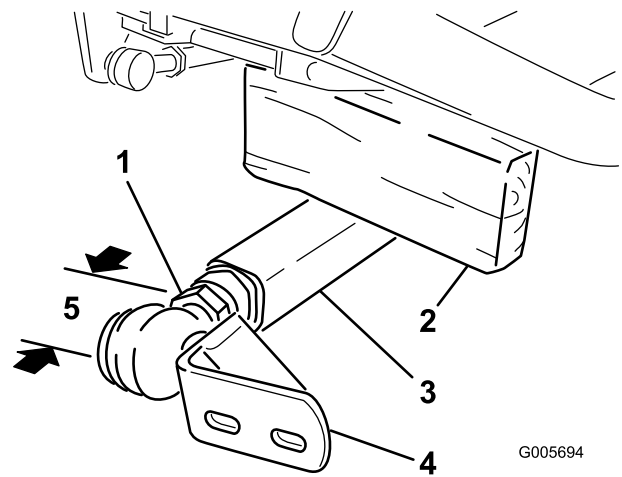

Figure 6
4. Insert a 51 x 102 mm (2 x 4 inch) block of wood between the frame and the top of the push arm (Figure 6).
5. Screw the ball joint into the left-hand push arm until the center of the ball joint is 60 mm (2-3/8 inches) away from the front of the push arm (Figure 6).